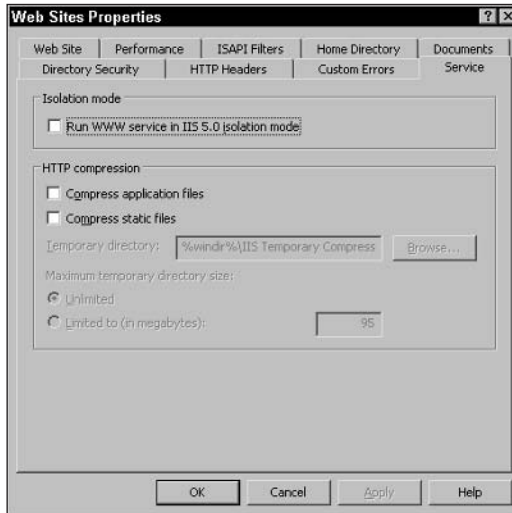

Figure 18-7: Confirm that IIS is not running in Isolation mode.
5. In the Web Sites Properties dialog box that appears, click the Service tab (see Figure 18-7).